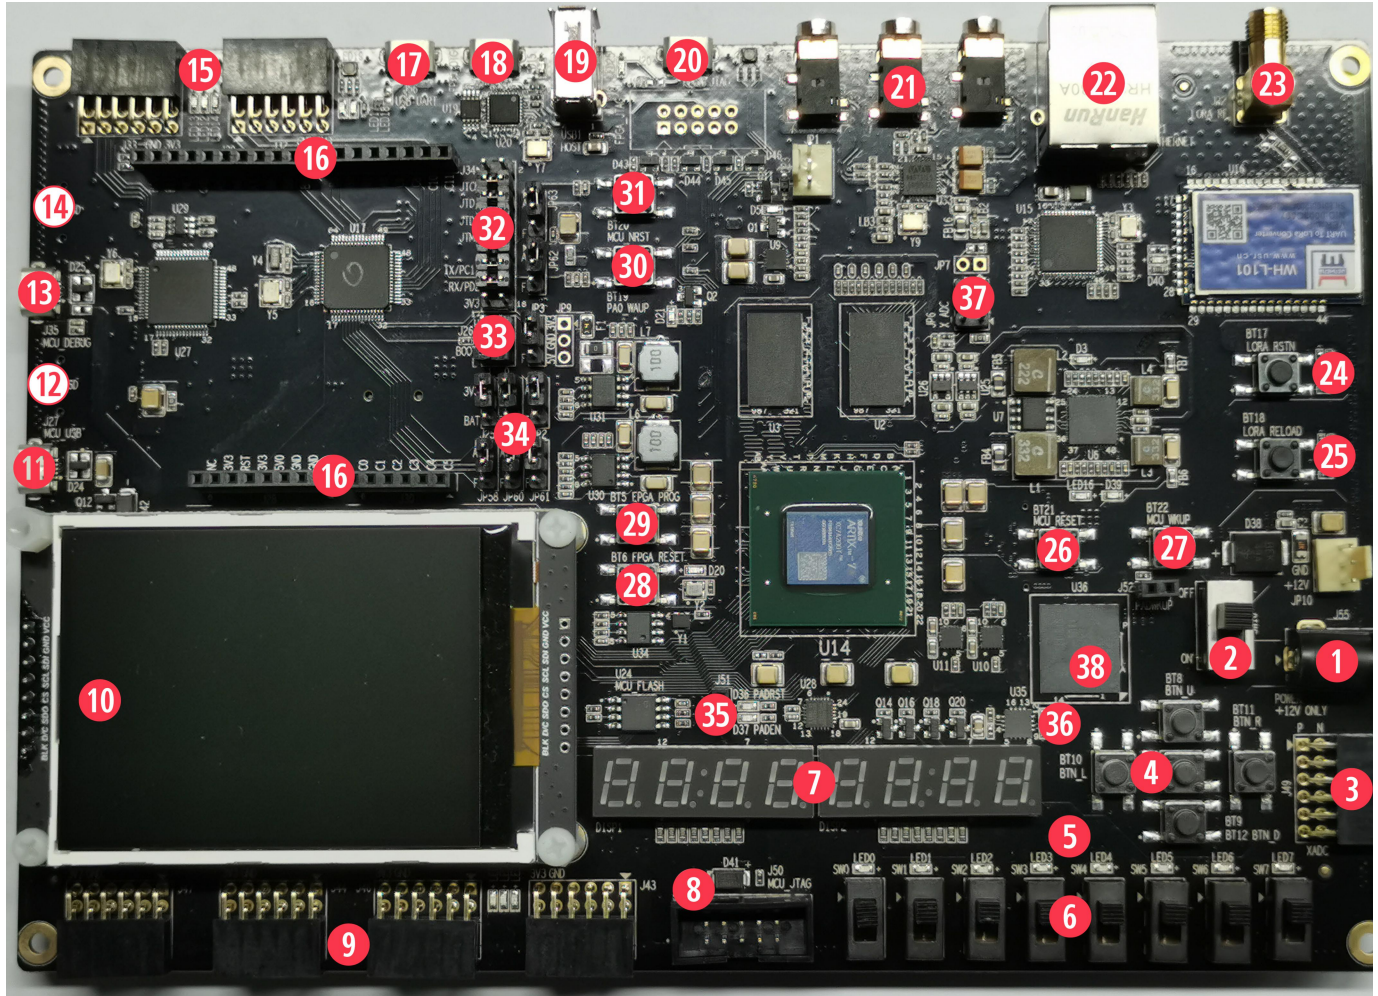
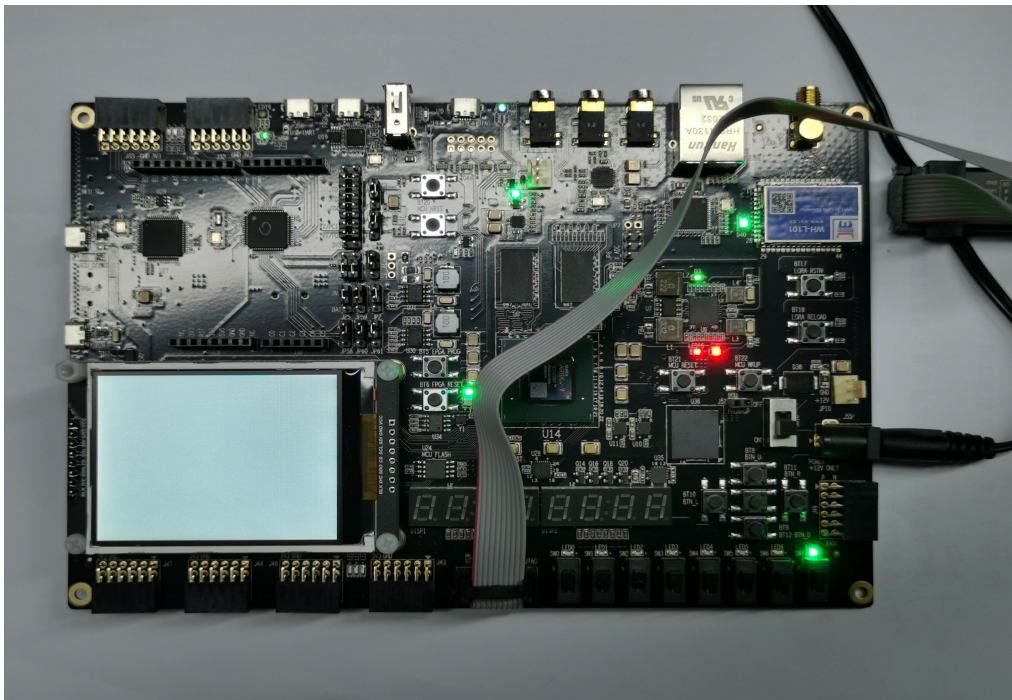

Figure 4-1 Board Hardware Resources
Figure 4-2 Connecting DDR200T FPGA board and Debugger Kit with PC
DDR200T Evaluation Kit is an high-level FPGA board based on Xilinx FPGA, as depicted in Figure 4-1, the hardware resource (marked as with different numbers in above picture) of this board is described as follows.
board MCU_RESET button, as depicted in the Figure 4-1 mark [26].
- The SoC have the “PoR Reset” pin, and the FPGA project mapped the pin to the board FPGA_RESET button, as depicted in the Figure 4-1 mark [28].
- The SoC have JTAG pins and UART0 pins (pin-mux to GPIO_16 and GPIO_17 of the SoC), and the FPGA project mapped these pins to the board MCU_JTAG interface socket, as depicted in the Figure 4-1 mark [8]. The “DDR200T Debugger Kit” can be connected to this socket, as depicted in Figure 4-2, and then be used to debug the RISC-V core (burned inside FPGA).
As described in Section 4.2.1, one of the purposes of “DDR200T Evaluation Kit” is to be as the regular FPGA board. To achieve this goal, there are push buttons , switches and LED lights, as depicted in the Figure 4-1 mark [4] [6] [5]. User can utilize these on-board resource to control the SoC, for examples as below:
- The switches (as depicted in the Figure 4-1 mark [6]) connect directly to FPGA GPIO. User can rewrite the constraint file(.xdc) to connect it to MCU_GPIOx pins, then to use the switch to control the MCU_GPIO input value.
- The LED lights (as depicted in the Figure 4-1 mark [5]) connect directly to FPGA GPIO. User can rewrite the constraint file(.xdc) to connect it to MCU_GPIOx pins, then to use the MCU_GPIO output value to control the LED lights.
- The buttons (as depicted in the Figure 4-1 mark [4]) connect directly to FPGA GPIO. User can rewrite the constraint file(.xdc) to connect it to MCU_GPIOx pins, then to use the button to control the MCU_GPIO input value.